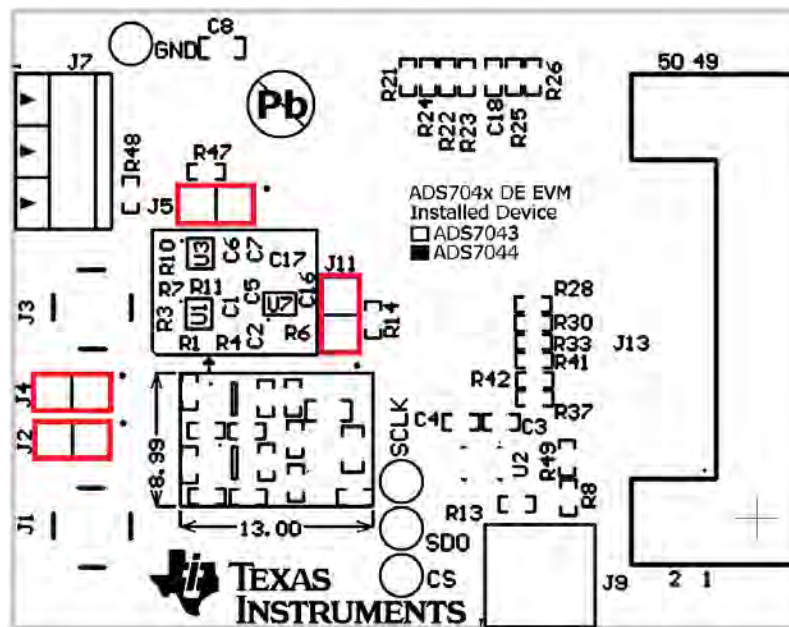

Figure 2. ADS7044EVM Default Jumper Settings
A silkscreen plot detailing the default jumper settings is shown in Figure 2.
- Step 1. Verify the ADS7044EVM jumpers are configured as shown in Figure 2.